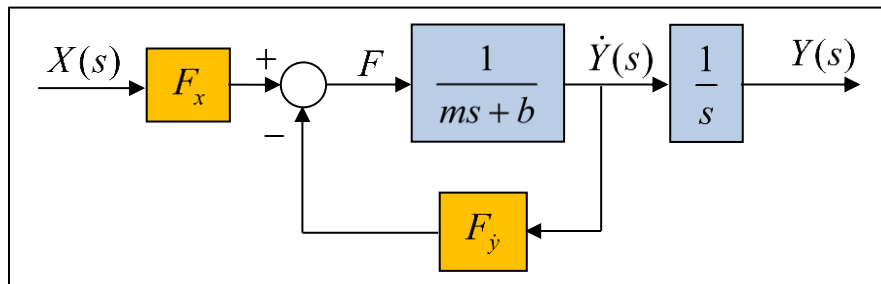
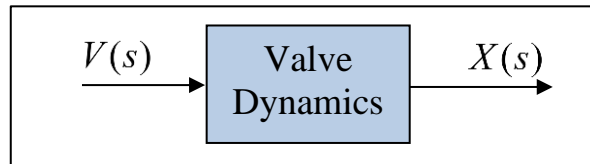

Fig. 2. Block diagram representation of Eq. (3)
Fig. 3. Input/output of Valve Dynamics
The symbols F_x and F_y represent the constant multipliers of x and \dot{y} in the expression of the total hydraulic pressure force F . Eq. (3) can be represented by the block diagram in Fig. 2.
If *valve dynamics* is *included* in the model, a block needs to be added to the left side of Fig. 2. As shown in Fig. 3, the input to that block is the *voltage command* sent to the valve, and the output is the *valve spool position*. It is not uncommon to model the valve dynamics as a *second* or *third order* system.